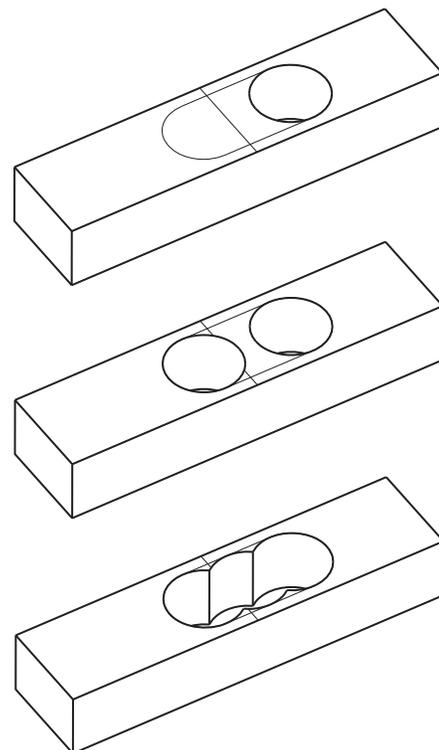

Figure 3: Roughing out the through mortise.
3. Rough out the mortise by drilling three through holes, as shown in **Figure 3**, using a 3/4" Forstner bit.